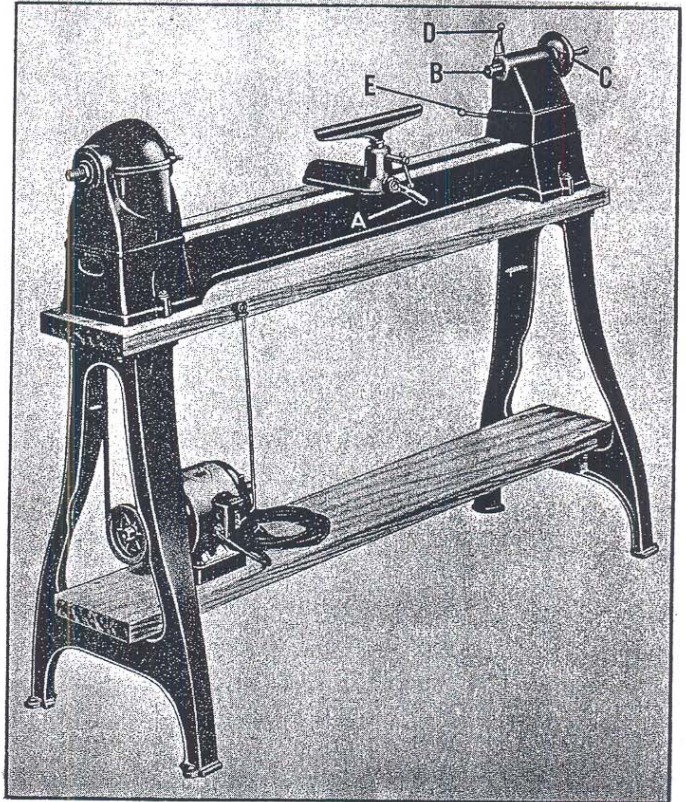
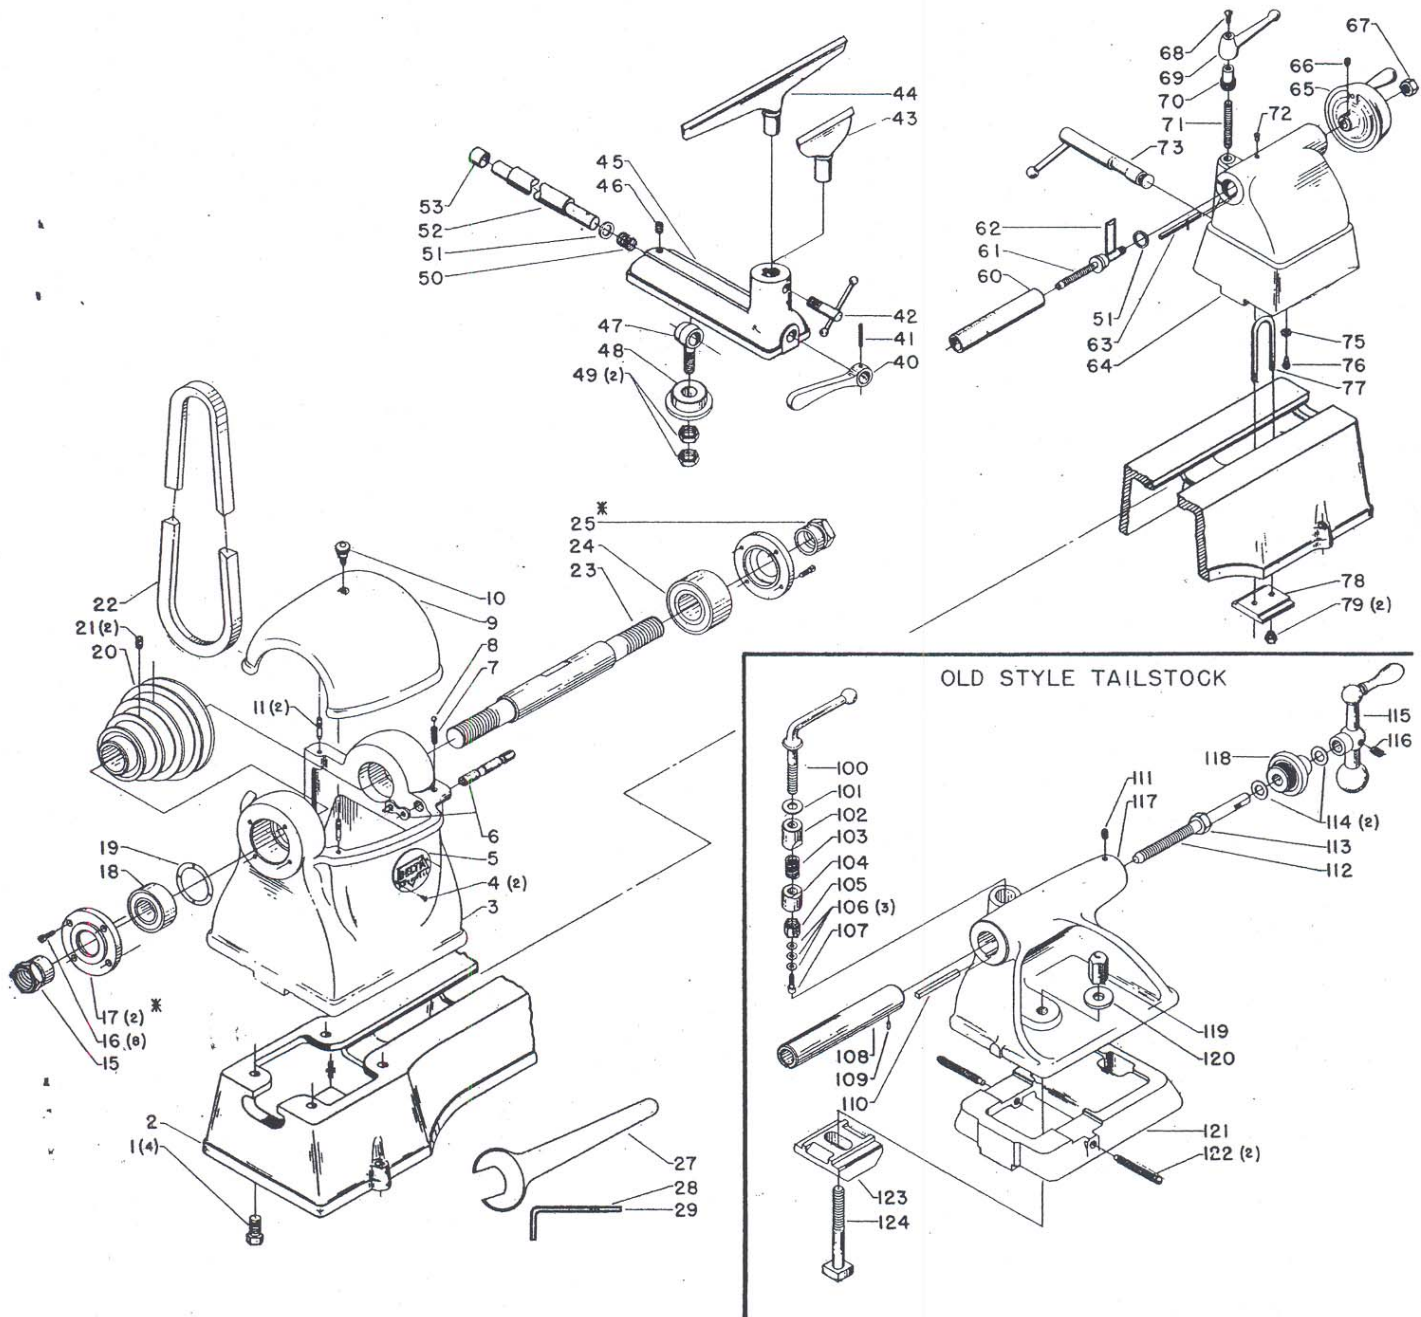

Fig. 2.
Fig. 4.
The quill (B) Fig. 2 is moved in and out of the tailstock by turning the handwheel (C), and can be locked in place with the hand lever (D). The tailstock center on chuck can be ejected by moving the quill to the complete "IN".
The tailstock is securely fastened to the bed by clamping of the eccentric shaft and lever (E) Fig. 2, which is conveniently located on the far side of tailstock. To properly adjust clamping action, tighten or loosen the self locking nuts on bottom of "U" bolt, as the case may be. These nuts are located under clamp plate in the bed ways.
The eccentric shaft (E) Fig. 2 should lock when it approaches dead center, which makes it self-locking.
The tool support is clamped into a V-groove in the base and can be rotated, raised or lowered. The base is clamped to the bed by using the handle (A) Fig. 2.
The handle (A) Fig. 2, of the eccentric shaft (52) Fig. 4, should lock at a point where it approaches dead center which makes it self-locking. For adjustments tighten or loosen the locknuts (49) Fig. 4.
Your lathe has a double row bearing, (24) Fig. 4, which has a self contained preload. Repairs can be made without removing the headstock from the lathe.